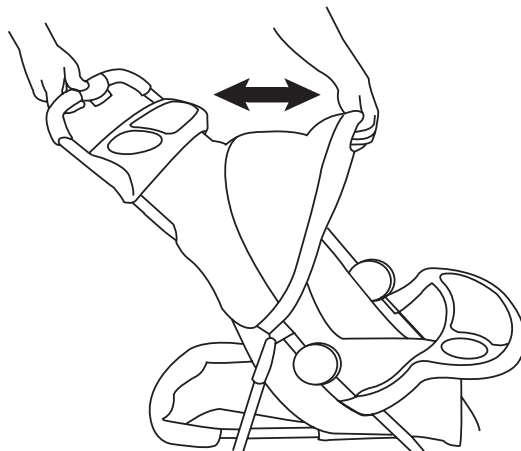

Fig. 11
11. To open the canopy, push forward on the front frame of the canopy. Pull backwards on the canopy frame to fold completely. Always fold the canopy prior to folding the stroller frame. Please see Figure 11.